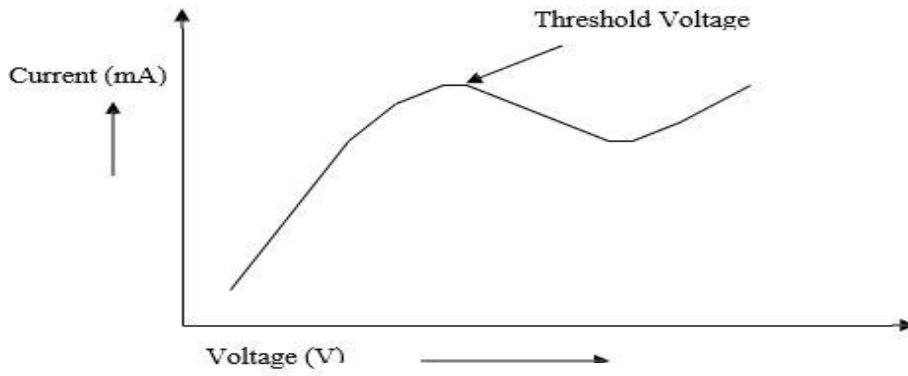

Fig 1.4. V-I Curve of Gunn Oscillator
3. Plot the voltage and current readings on the graph as shown in Fig.1.4.